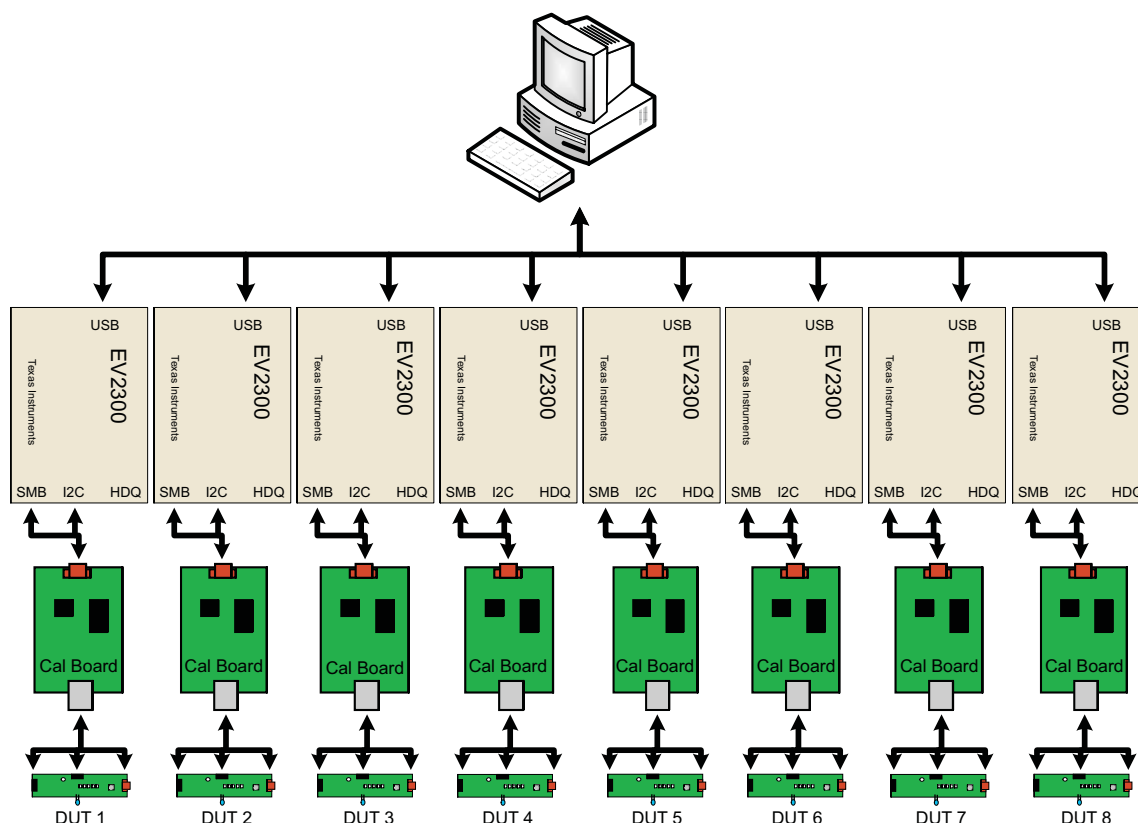

Figure 9. Multi-Station Setup
1. Connect all the stations to the PC. Up to 12 stations are supported. An 8 station configuration is shown in Figure 9.